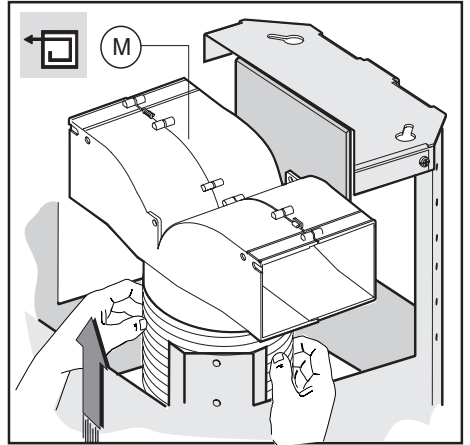
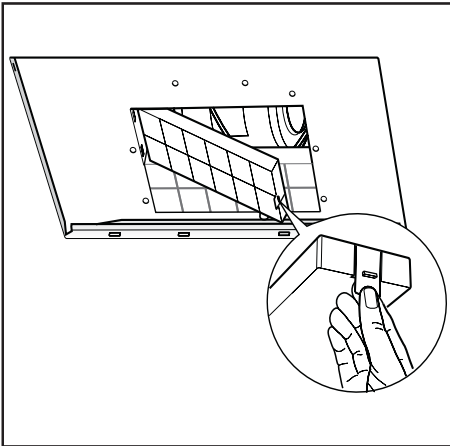

Fig.10
Fig.20
- **Filter hood:** connect the flexible hose to the deflector **M** as indicated in (Fig. 10); the active carbon filters should be fitted to the extraction assembly inside the hood (Fig. 20).